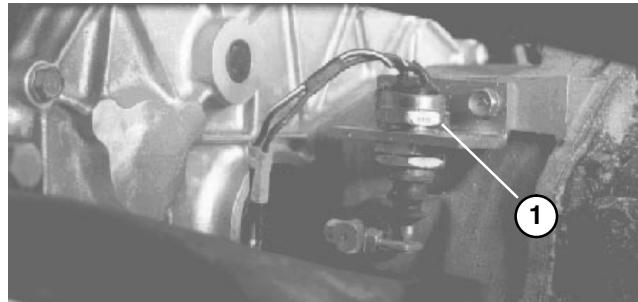

Figure 50
7. Recheck clutch safety switch adjustment (Fig. 50). Engine must not crank unless clutch pedal is $1.25" \pm .25"$ from floor. If an adjustment is required, loosen switch jam nuts and adjust up or down.